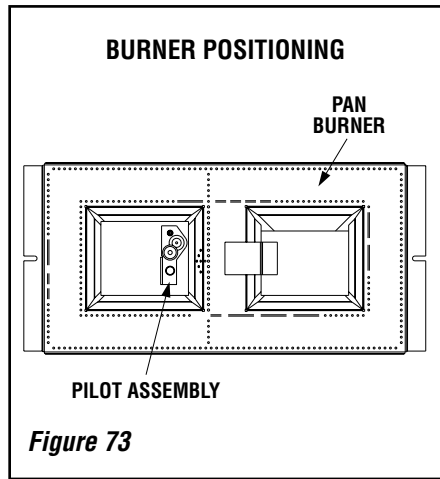

Figure 73
B. Install the burner as shown in *Figure 73*.